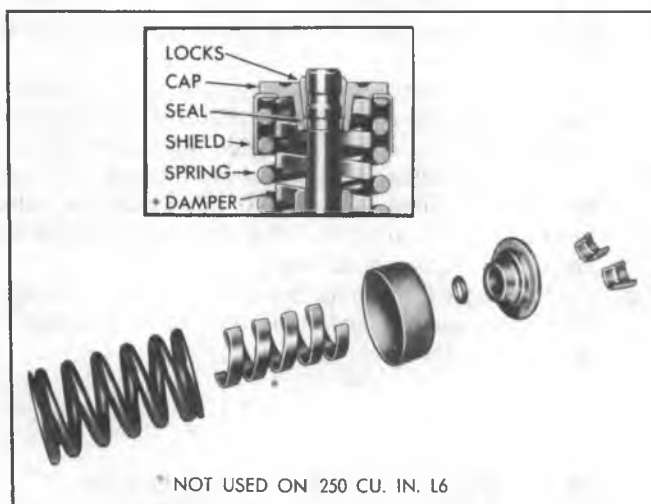

Fig. 25--Valve Spring Installation (In-Line and "Small V8")
- a. Set the valve spring shim, valve spring (with damper if used), valve shield and valve cap or rotator in place (fig. 25).